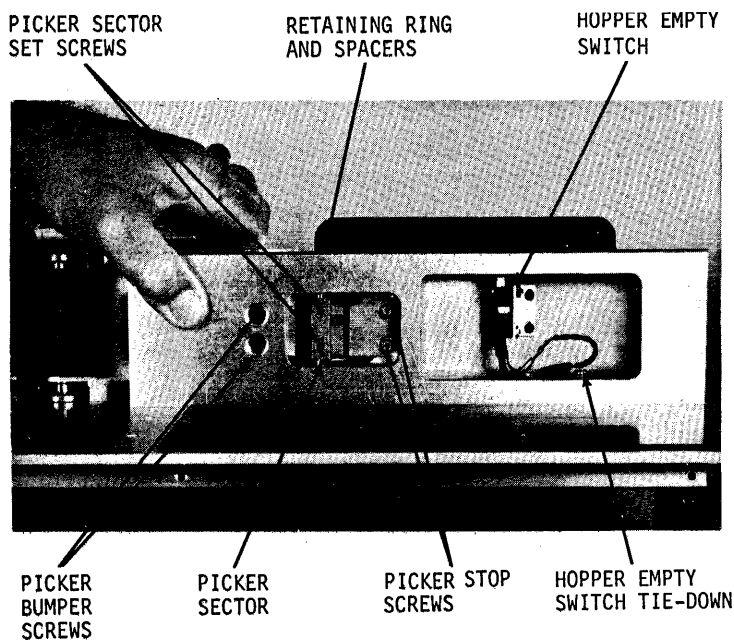

Figure 9-19. Replacement of Picker Casting And Picker Sector, Front View
- p. Remove nylon tie-down holding hopper empty switch cable, figure 9-19.
- a. Set picker casting in place, figure 9-19.
- c. With hand pressure applied between picker casting and stacker casting as in figure 9-19, tighten six picker casting mounting screws.
- c. Using a #2 retaining ring remover tool, remove the retaining ring from the top of the picker shaft, figure 9-19.
- d. Remove spacers located under the retaining ring, figure 9-19.
- e. Using a 5/64 Allen wrench, LOOSEN two set screws holding picker sector, figure 9-19.
- l. Retaining this measurement, tighten the two picker sector set screws, figure 9-19.